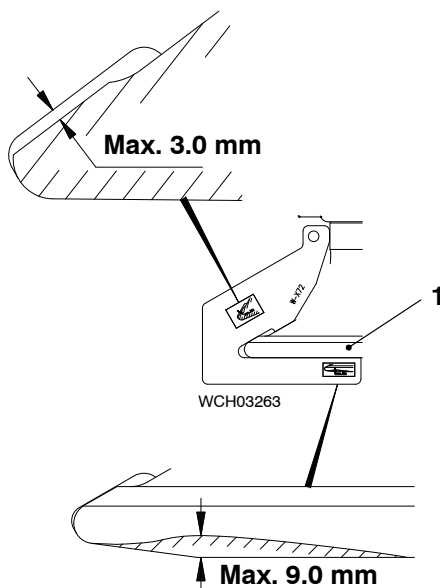

Fig. 2
- 4) Put the gauge (94292) on the valve head (1, Fig. 2).